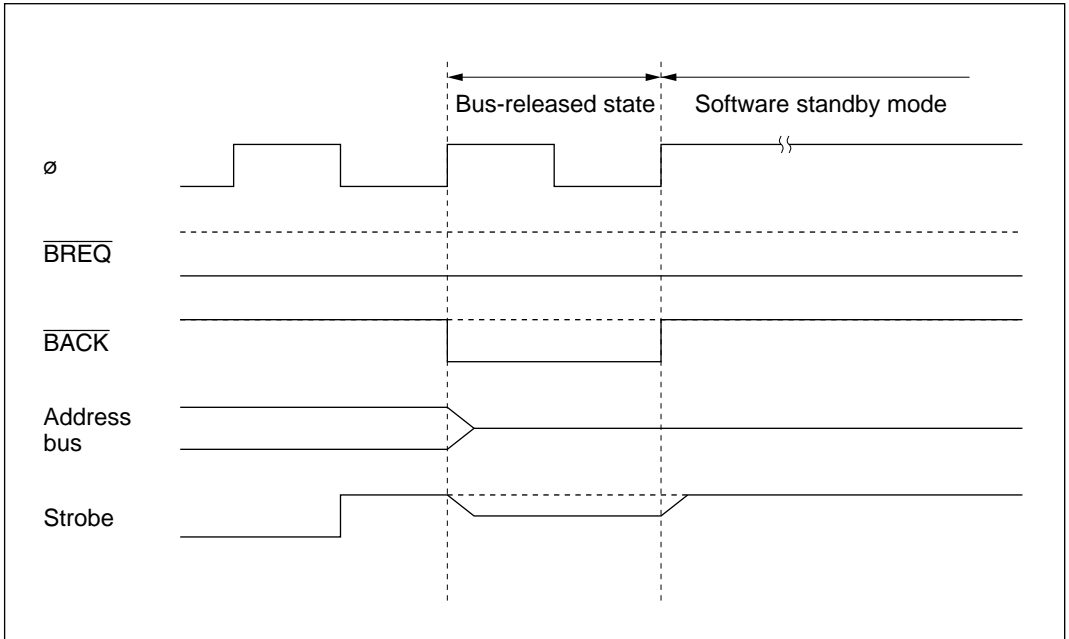

Figure 7-25 Contention between Bus-Released State and Software Standby Mode
- If contention occurs between a transition to software standby mode and a bus request from an external bus master, the bus may be released for one state just before the transition to software standby mode (see figure 7-25). When using software standby mode, clear the BRLE bit to 0 in BRCCR before executing the SLEEP instruction.